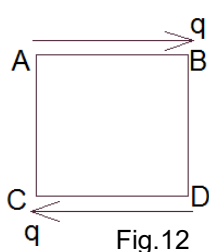
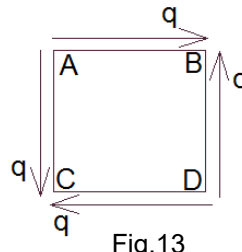

Fig.12
Fig.13
- By applying shear, as shown in Fig.12 the complimentary shear stress are produced at faces AC and BD as shown in Fig.13